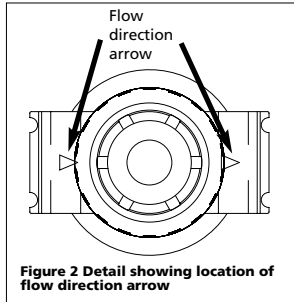

Figure 2 Detail showing location of flow direction arrow
1. Locate the air flow direction arrow (See Figure 2, detail). This arrow shows the direction of the air flow, i.e., it points to the outlet.
5. Verify the arrow points to the outlet. (See Figure 2.)
5. Verifique que la flecha apunte hacia la salida (Vea Fig. 2).